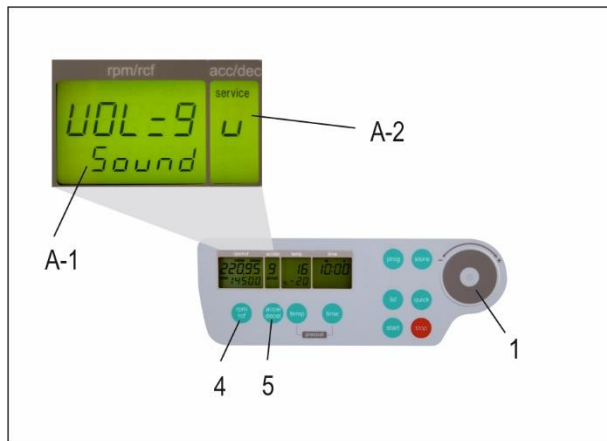

Figure 9
Proceed as illustrated, under point 1.8.1, to enter this program mode, press the key "accel/decel" (5). In the display, "accel/decel" (A-2), flashes the word, "service". Select the letter, "U" with the control field (1). As a result, appearing in the display, "rpm/rcf" (A-1), are the words, "Vol=0- 9/Sound". By pressing the key, "rpm/rcf" (4), the desired volume can be adjusted between 0 (low) and 9 (loud), with the control field (1), (see Figure 9